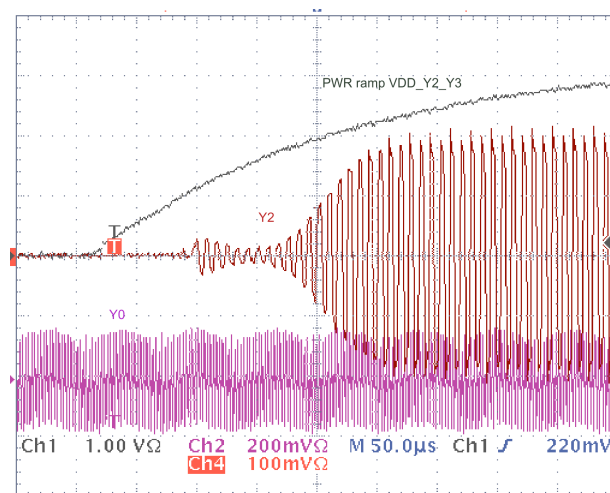

Figure 58. Sequencing the Output Turn-on Through Sequencing the Output Supplies Output Y2 Powers Up While Output Y0 is Already Running
2. **Output Power supply domain control:** An even easier scheme might be to connect the clock output power supply VDD_Yx to the corresponding DSP input clock supply domain. In this case, the CDCM6208 output will remain disabled until the DSP rails ramps up as well. Figure 58 shows the turn-on behavior.